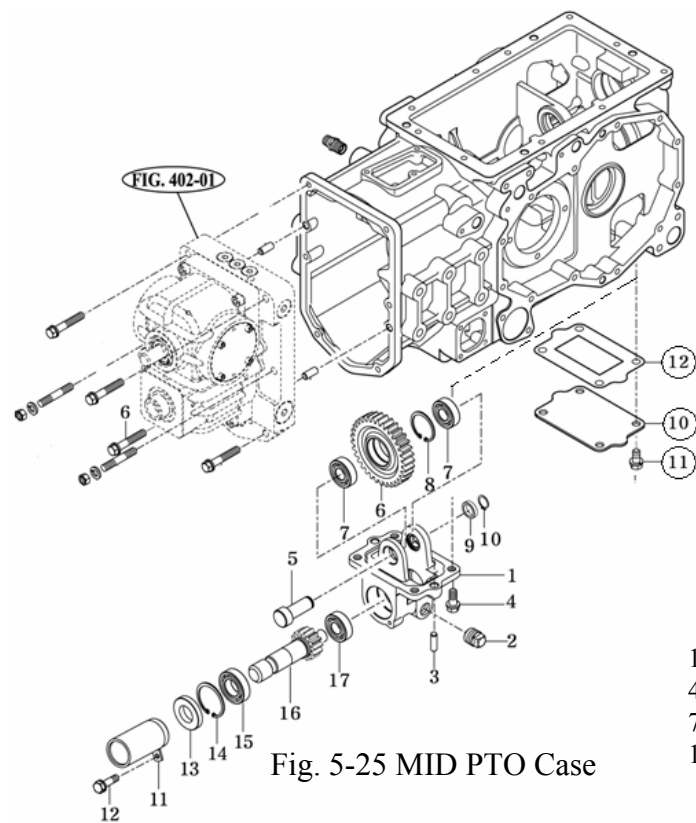

Fig. 5-25 MID PTO Case
a. Disconnect Mid PTO case by loosening bolts as shown in Fig.5-25